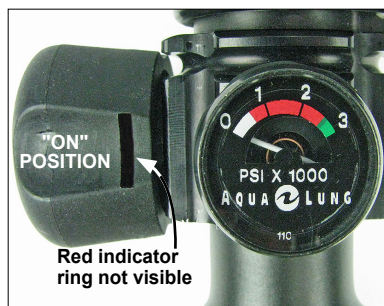

Figure 17
8. Turn the SEA-3000LW valve handwheel counter-clockwise until it is completely open. When the handwheel is in the open position, the **red indicator ring** is not visible (Fig. 17). Repeat process for second cylinder.